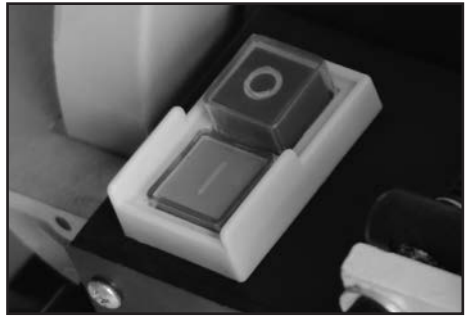

FIG.9
9.1 NO-VOLT ON/OFF SWITCH - FIG. 9